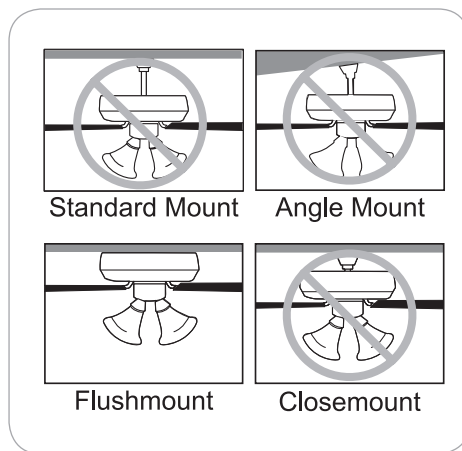

Figure 1.2
2. Choose one of the following mounting options (Figure 1.2) :